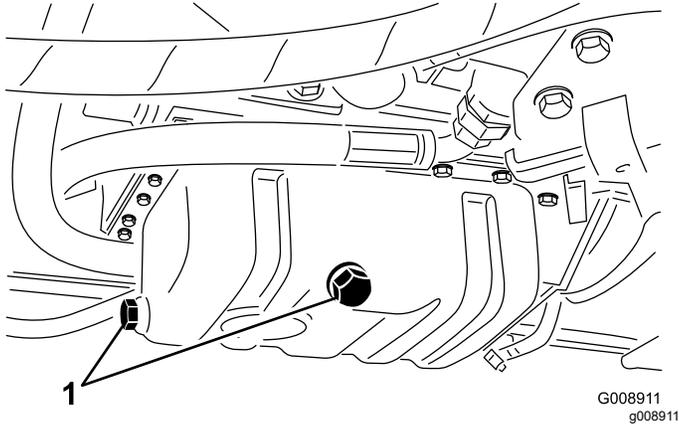

Figure 55
1. Remove the drain plug (Figure 55) and let the oil flow into a drain pan.